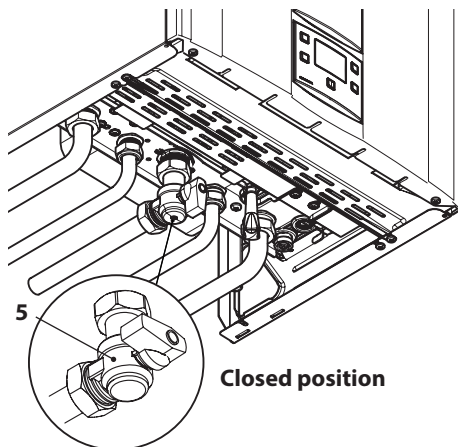

Figure 6.2
- Reclose the gas cock 5 in Figure 6.2.